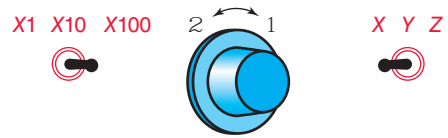

Figure 19-19 Identify the *name and purpose* of these three CNC controls that work together.
13. Identify the three CNC controls in Fig. 19-19 that work together and explain their purpose. (LO 19-2)